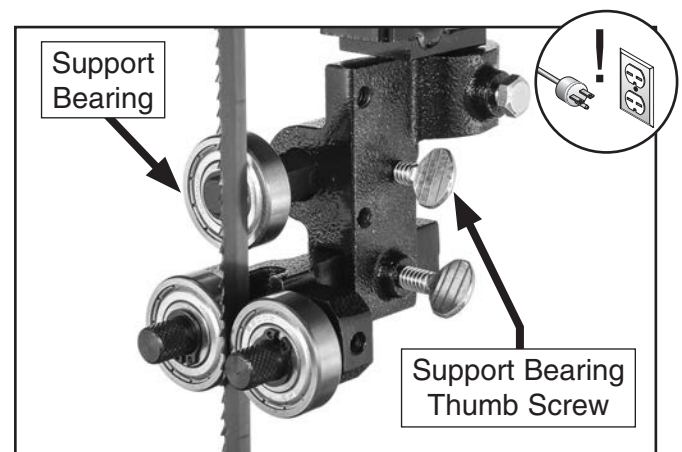

Figure 19. Upper support bearing assembly and controls.
2. Loosen support bearing thumb screw (see **Figure 19**).